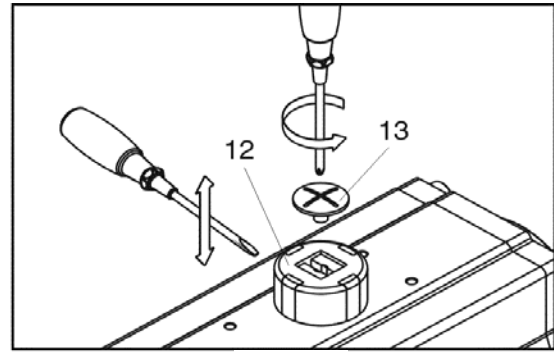

Fig. 3
1) Shown in Fig. 3, remove plastic screw (#13) and plastic indicator (#12) if it has not been removed prior for assembly. A flat tip screwdriver might be needed to pry the indicator loose from the output shaft.